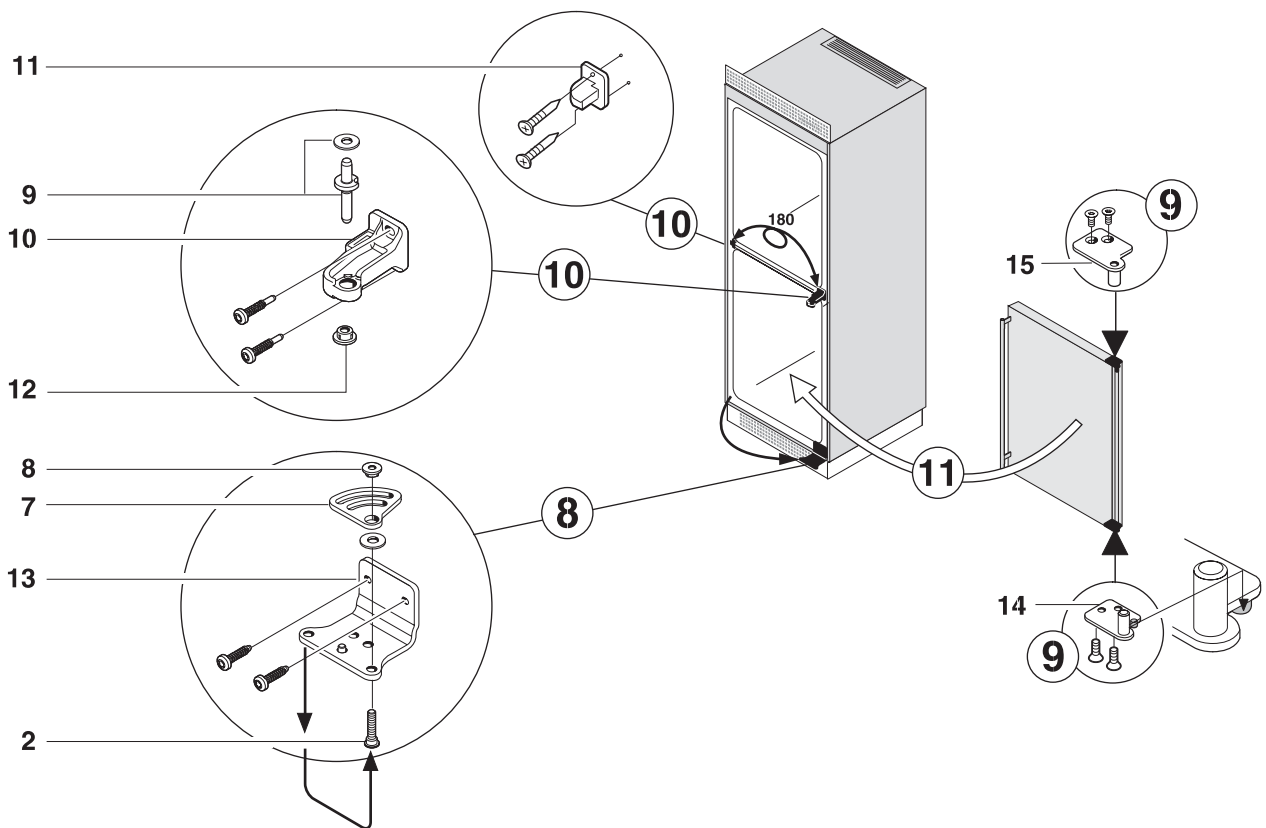

Figure 12
8. **Figure 12:** Unscrew the lower hinge (13).
- Transfer hinge pin (2) to the opposite side.
- Turn the stop (7) 180° and position bushings (8) as shown in the detailed drawing.
- Screw on hinge (13) on the new hinge side.
9. On the lower door: Reinstall the door fittings (14, 15). Pay special attention to the part (14) with the stop.
- Pay special attention to the bushing (12) in the center hinge (10).
- Insert hinge pin (9) and add the washer.
10. Unscrew the center hinge (10) and cover (11), pull them off to the side and after turning them 180°, slide them on again on the opposite side and secure them.
11. Place the lower door on the hinge pin (2) at the bottom.